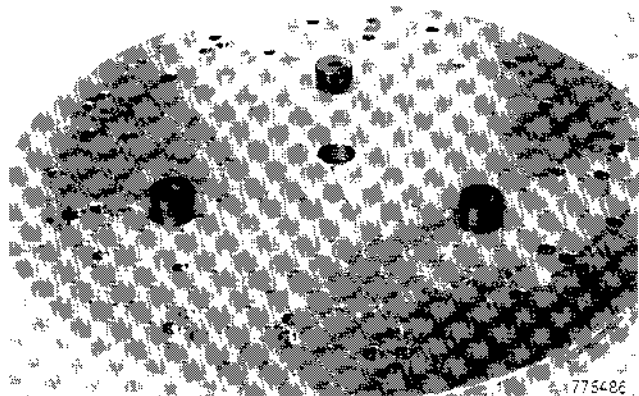

Figure 94
5. Put the K912917 base plate on a clean bench. Put the three code 14 spacers around the center of the base plate. Position the spacers so that when the pressure plate is put on the base plate the spacers are below the release lever lugs, Figure 94.